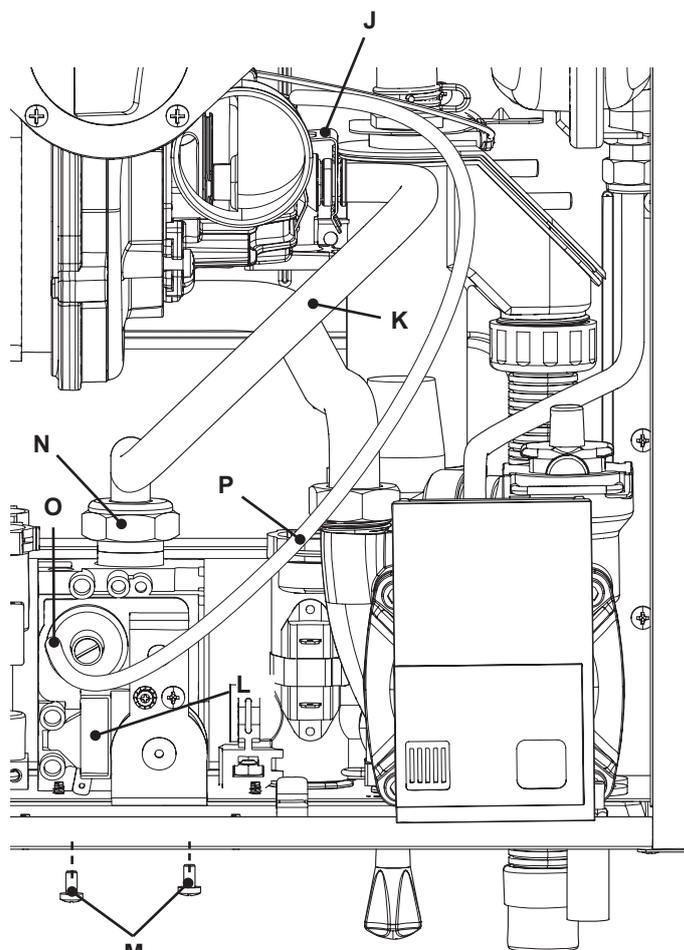

Figure 11.12
- 2 Disconnect the connector L (Figure 11.12).
- 4 Using pliers, remove the spring O and the rubber pipe P (Figure 11.12).